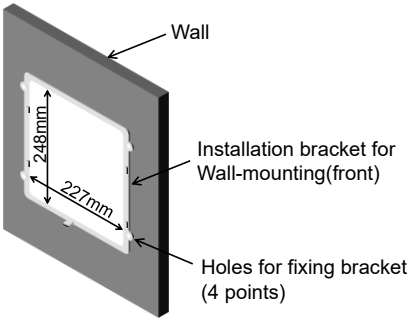

Fig. 3.4.1
(1) Install bracket
- Make a hole (length 248 mm x width 227 mm) in the wall where you want to install it (Fig. 3.4.1).